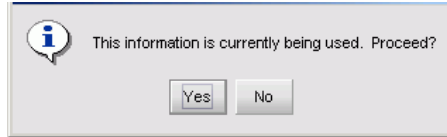

Figure 3-28 Editing Domain Information Dialog Box
- b. At the *Available Addresses* field, select (highlight) the director to be reconfigured and click *Change*. The *Editing Domain Information* dialog box displays (Figure 3-28).